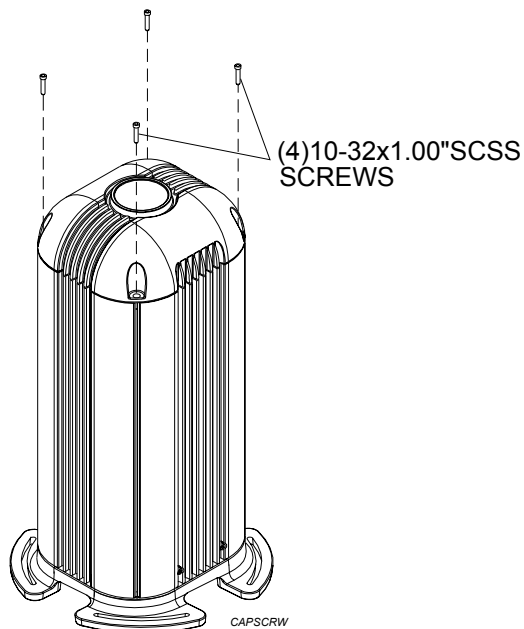

Figure 7.4 - Four Stanchion Cap Assembly Screw Installation
7. At stanchion cap, remove four 10-32x1.00"PPSS screws and replace with four 10-32x1.00"SCSS Screws (Figure 7.4).